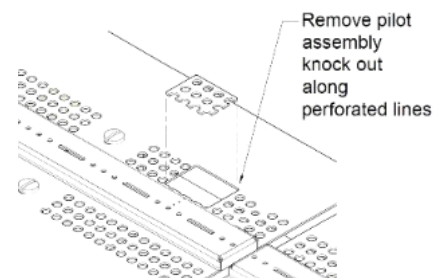

FIGURE 45
- 10) Before replacing the removed burner top from **step 4**, locate the perforated rectangular section in the pan. Gently remove this section along the perforations using a screwdriver or pliers. **(Figure 45)**